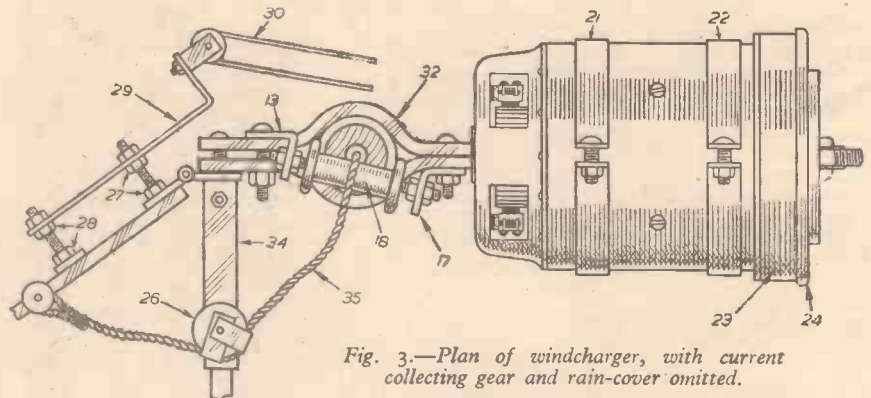

Fig. 3.—Plan of windcharger, with current collecting gear and rain-cover omitted.
The tail is held in position by a rubber band (30) Fig. 3, cut from a strong motor tube, and stretched between two large cotton spools. A rubber band is easier to mount, and works more efficiently than a steel spring. The arm (29), which carries one cotton spool, also acts as a stop to limit the position of the tail, which is variable by changing the spacing nuts (27) (28).
The second pulley (26) is bolted to a right-angle bracket (34) held by the bolts which secure the hinge, see Fig. 3. Two pieces of aluminium are bent round this pulley to form guards for keeping the rope in the pulley-groove. The pulley should be at least 12 in. from the turntable. Remember that wire cannot be used instead of rope, since it would short-circuit the dynamo.